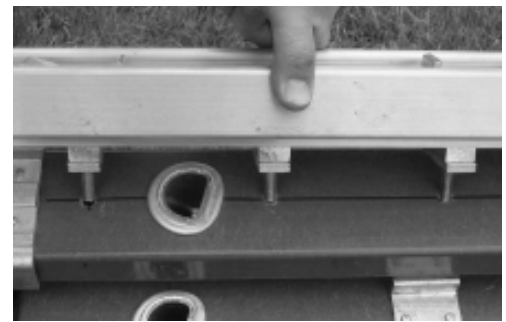

Figure 2-5
6. Slide the LL-STB-1 leveler studs through holes until the standoff plate assembly is evenly seated against the fiberglass ladder side rail. There should not be any gaps (see **Figure 2-5**, page 4).